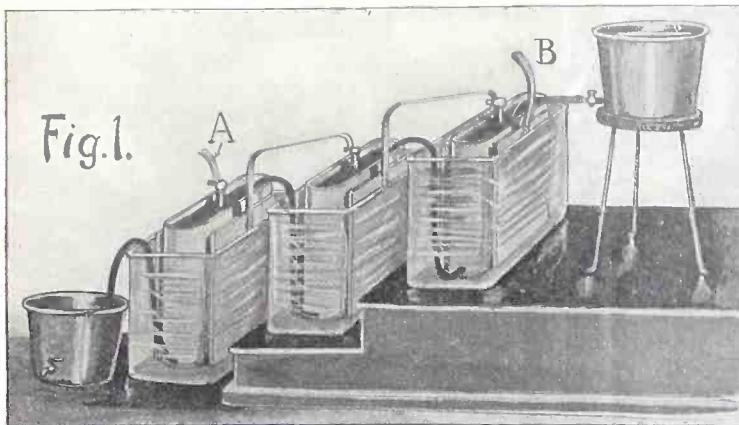

Fig. 1.
Connect the filaments first. Following Fig. 1, A plus goes from battery direct to the F plus posts of all four sockets. A minus goes to one side of each of the two rheostats. The open side of R1, the first rheostat, goes to the F minus posts of both the RF and the detector sockets, which sockets appear in that order from left to right in Fig. 1. The open end of R2 goes to the audio socket F+ posts. That completes the filament wiring.
The tickler, L5, is connected with plate of the detector tube to one terminal of the tickler and while the other lead goes to B plus detector voltage, normally $22\frac{1}{2}$ to 45. Later reverse tickler connections if regeneration is not obtained throughout the entire broadcast band. The tickler connection to battery is made through a double-circuit jack, hence wire the battery end of the tickler so that it connects to the outside hooked spring of this jack, J1. The frame or right angle of the jack, represented in many types of jacks by an adjoining hooked spring internally connected to the frame, is connected to B plus. Hence if you plug in phones at this point the B plus voltage is obtained through the phones. The inside springs of the jack are so connected that the one that contacts with the B plus or jack frame lead goes to the B plus or P2 post of the first audio transformer, marked B in Fig. 1. The other inside prong goes to the P post, sometimes marked P1 on some transformers. G of the first audio transformer is connected to the G post of the first audio socket, this representing the grid.
The hookup as shown in Fig. 1 is correct and if the wiring directions are followed, and all the parts, tubes and connections correct, you cannot fail to hear signals, if any are within range. Therefore, lacking them, inspect the receiver for broken connections. These will be easy to find if in any part of the actual wiring that you performed, but if in an audio transformer, for instance, the location of the trouble will not be so easy. Once in a while a primary or a secondary of an audio transformer will burn out or become broken through mishandling, although in my personal experience this never has happened. Use a small dry cell and a pair of phones to test for broken connections at any point, including audio transformers. One phone cord and one battery post go to the test circuit. A sharp click discloses that the connection is all right. In the case of the audio transformer, however, the secondary will click with considerably less perceptibility than will the primary, due to the many more turns of wire on the secondary introducing extra resistance. Also, condensers will give a faint click, even when not shorted, due to charge and discharge, but you will have no difficulty in distinguishing these three points, for the condenser short will show up with abundant certainty and your ear will readily learn to be correctly guided.
The tube test is first performed by changing tubes about. Also you may borrow tubes from a neighbor if need be. If a detector jack is included, as in Fig. 1, it is easy to test tubes to determine whether they are all right, and at the same time find out whether the radio or the audio side is causing the failure of signals to come through. Thus, if you plug in at the detector output and hear nothing, you may take one of the tubes from the audio side and put it in the detector socket. If still no signals are heard, put the other erstwhile audio tube in the RF socket. Thus combinations can be tried out and the result will be that you will hear signals, disclosing which tube or tubes are at fault, or you still will hear nothing, in which case the likelihood will be that you are not suffering from tube trouble. At any rate, you still may borrow a neighbor's tubes and convince yourself. If no signals are heard under any conditions, check up on the wiring up to the audio input, since the trouble has now been confined to the radio side, unless an undisclosed trouble
FIG. 1, the wiring diagram of the set using the Antennatrol, which controls volume, selectivity and oscillations. This is the circuit LC. It is used in conjunction with a 4-tube RF receiver.
YOU gain a decided advantage when you tone the aerial, because the whole antenna system is thereby established at a point of highest efficiency for the reception of the desired signals. The reason for the decline in popularity of antenna-tuned systems is not that they are inefficient but because they require an extra control and also because, under most methods of applying this advantage, the tuning of the aerial affects the setting of the condenser across the secondary circuit. As for the extra control, it is of course true that the antenna must have an independent control if it is to be tuned, but the advantage gained is well worth this addition. As for causing the condenser across the secondary to lose its characteristic of "loggability," I avoid this by hooking up the tuned aerial circuit as shown in Fig. 1. In other words, the "untuned" primary, L₁, is retained in all its pristine virtue, and thereby the condenser C₁ has fixed settings for given wave lengths or frequencies, and the detuning argument is fully met.
L and C in Fig. 1 are tuned to the same wave length as the rest of the circuit.
Let us see what effect the LC method of Fig. 1, which may be incorporated as a separate unit added to any set that has an untuned primary, has upon selectivity. On strong signals, that is, local stations that ordinarily come with excessive volume, the apparent effect is a loss of selectivity, but this is merely inferential, not actual. In everyday practice selectivity is gauged in respect to volume, so that one measures by a squint at the dial what stretch of that indicators' surface permits the signal to come through. The real test of selectivity is made of course under different conditions, and where the input is uniform. Hence by the everyday method the LC system in some cases seems less selective, but only because the antenna tuning system causes ever so much more energy to be delivered to the receiver, that is, increases volume. When an originally excessively strong station is subjected to further volume amplification, the seeming reduction in selectivity results. In fact it is a case of the volume going up, not the selectivity going down. The system either
The diagram as shown in Fig. 1 was used without the LC system incorporated, and volume was good and so was the reception of distant stations. But the moment the tuned antenna system was included, hereby following Fig. 1 exactly, the volume was increased on all stations, while distant reception was more readily obtained, and stations not otherwise heard were brought in. Moreover, where a faint signal was picked up its volume was brought up to an enjoyably audible point by tuning the LC circuit. Even at the middle and upper parts of the dial that actuated C, stations could be tuned out by a degree or so of the dial, and the selectivity peak was considerably sharpened.
8. The Camacho battery is one in which an Electropoion Fluid is used as the depolarizer and active solution. The carbon plate is negative and the mixed zinc is the positive plate. The carbon as you will notice in Fig. 1, is placed in a cup which is porous, wherein loose carbon granules are packed. A is the carbon plate and B is the zinc plate. Note that the solution is delivered from cell to cell by means of a siphone.